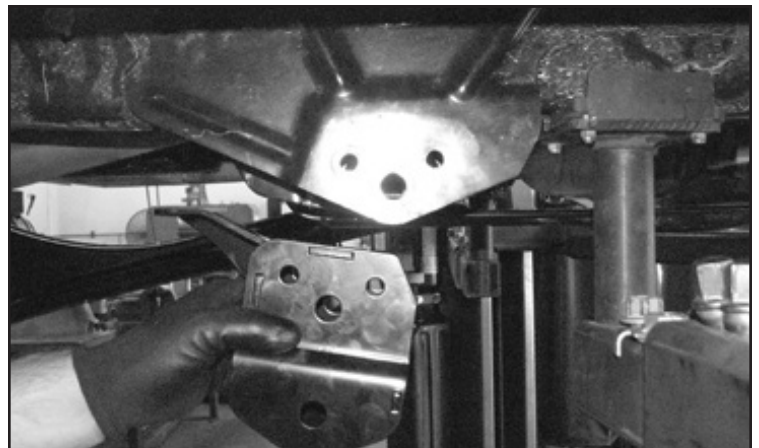

FIGURE 35 - STEP 39
39. Slide the Fabtech radius arm mount into the factory pocket with the frame tab facing the front of the truck. **SEE FIGURE 35**